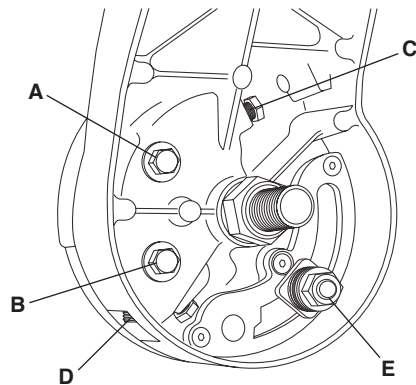

**Figure 5. Blade Square to Table**
Use a combination square to check blade squareness to the table. Place the square on the table and press it against the blade. If the blade does not contact the full length of the square, (figure 5), follow the calibrating procedure.
5. Place combination square on table and against blade. (See figure 5)